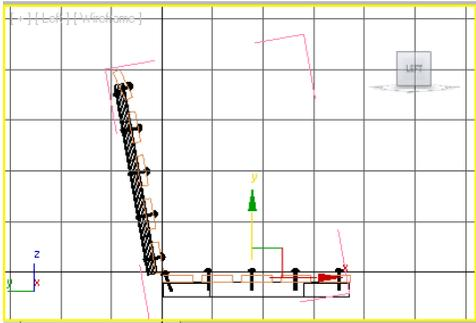

Figure 2-83 Alignment of *right side seat rivets* in the Left viewport
- Choose the **Select and Move** tool. Now, move the cursor over the vertical axis and then drag the mouse downward to align *right side seat rivets* with *horizontal seat support*, as shown in Figure 2-83.